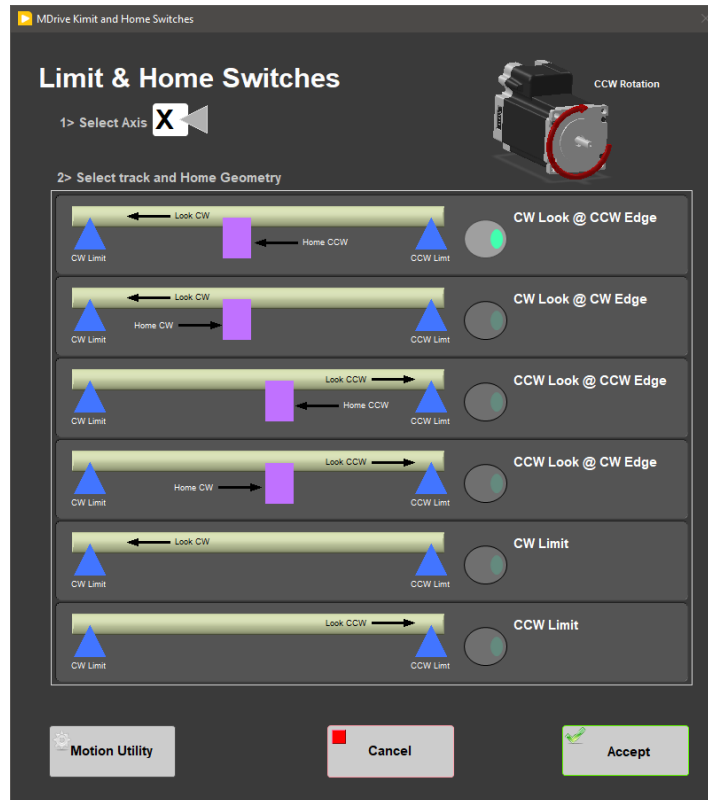

Figure 65- SRM Limit and Home Switches Window
- This panel is used to define the orientation of the track system, limit switches, and the home switch (**Figure 65**). On 396T a second switch was added to the out end of the track (CW) so home is found by both the CW limit and home switches.